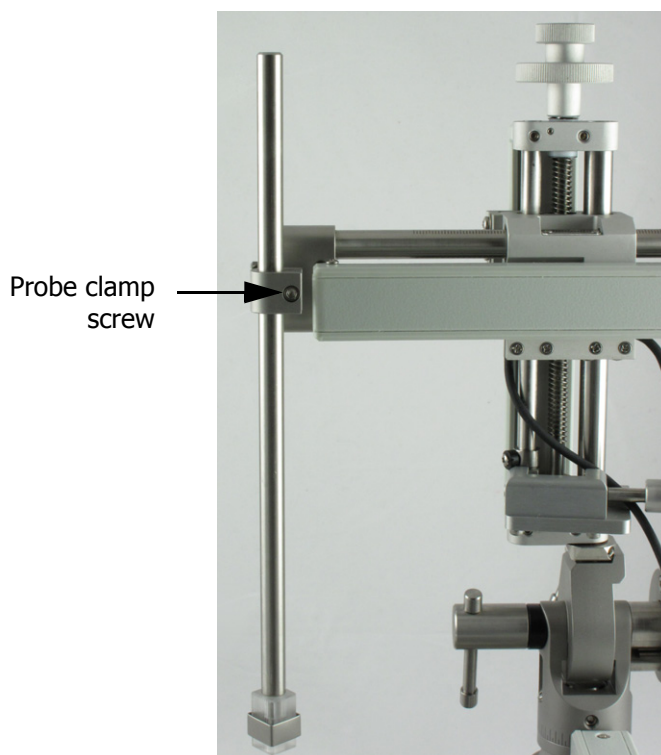

Figure 20. The probe shaft screw
- (i) Use a 3/32" Allen wrench to undo the probe shaft screw (see Figure 20).
1. Use a 3/32 inch Allen wrench to undo the probe shaft screw (see Figure 20).